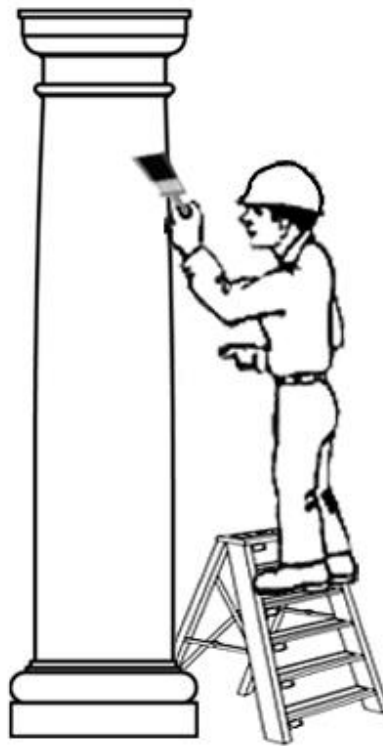

FIGURE 3
NOTE: Acrylic latex products have superior adhesion over plain latex finishes. Coat the entire column shaft, capital, and base. A minimum of one (1) primer coat and one (1) finish coat should be applied prior to installation. Painting with a sprayer is not recommended. Brush painting provides more substantial coverage. [FIGURE 3]